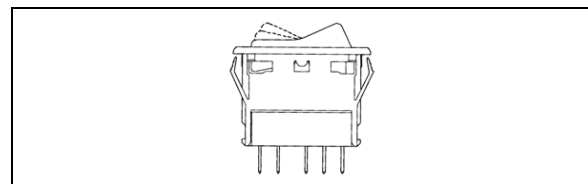

FIGURE 70: SWITCH
3. To install a new switch, reverse the procedure (FIGURE 70).